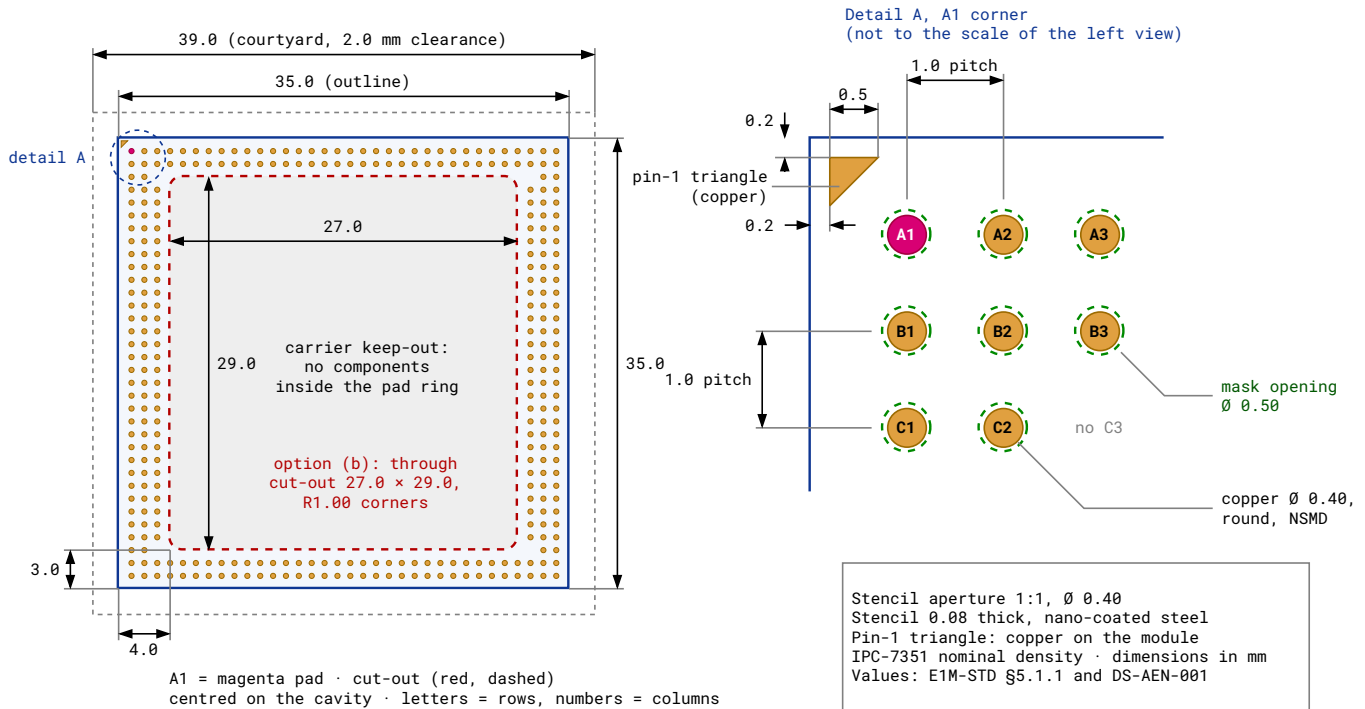
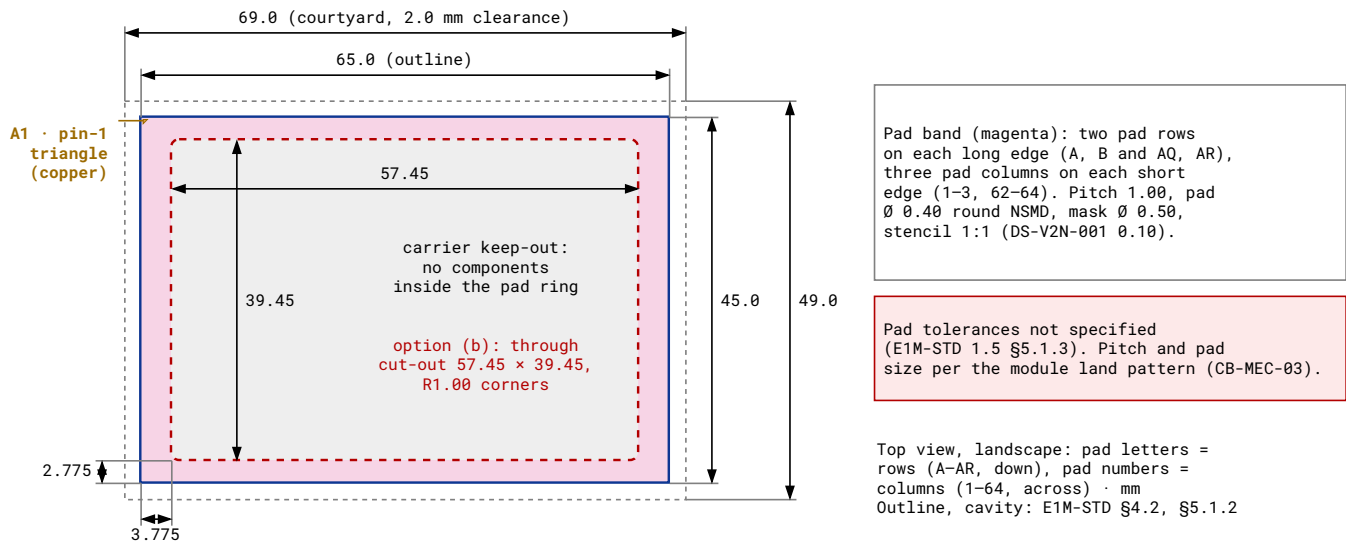

Figure 6 E1M carrier land pattern: top view with 2.0 mm courtyard, keep-out and the option (b) cut-out, and pad detail
Figure 7 E1M-X outline, pad band, cavity, option (b) cut-out and 2.0 mm courtyard (pad dimensions per DS-V2N-001 0.10)
The specification fixes the E1M signal grid: pads lie on a 1.0 mm pitch grid and are 0.40 mm diameter round copper pads (E1M-STD §5.1.1). The 0.5 mm value in the footprint drawing of earlier revisions is the size of the A1 fiducial, not the pitch. E1M-STD §5.1.3 gives a recommended carrier land pattern for both form factors (informative; its values are those published for E1M-AEN), and the land pattern published for E1M-AEN completes the footprint (Figure 6). E1M-STD-1.0 revision 1.5 does not specify pad position and size tolerances or a carrier footprint library.
The E1M-X land pattern is published in DS-V2N-001 0.10 and DS-V2N-M1-001 0.13 (Recommended PCB Land Pattern): 1.00 mm pad pitch (signal grid), Ø 0.40 mm round NSMD copper pads (one pad size for the whole pad band), Ø 0.50 mm solder-mask opening, 1:1 Ø 0.40 mm stencil aperture, 80 µm nano-coated steel stencil, and a 2.0 mm courtyard around the module outline, 69.0 × 49.0 mm. These values agree with the E1M-STD §5.1.2 footprint drawing and the §5.1.3 recommended carrier land pattern of E1M-STD-1.0 revision 1.5. In revision 1.5 they are still informative for E1M-X: the specification has no normative (SHALL) text for E1M-X pad pitch and size, no dimension callouts, no pad tolerances and no footprint library (§5.1.2, §5.1.3). The pinout JSON places 64 columns across 65 mm and 44 rows down 45 mm, which is consistent with the 1.0 mm grid. Figure 7 shows the outline, cavity, option (b) cut-out and courtyard in the pad frame of Chapter 1 (landscape, A1 top left).
- **Option (b), carrier cut-out.** The carrier has a through cut-out the size of the module's central cavity, at the cavity position, with R1.00 corners. The module pads solder to the carrier pads around it. Figure 6 and Figure 7 show the cut-out in the land pattern.